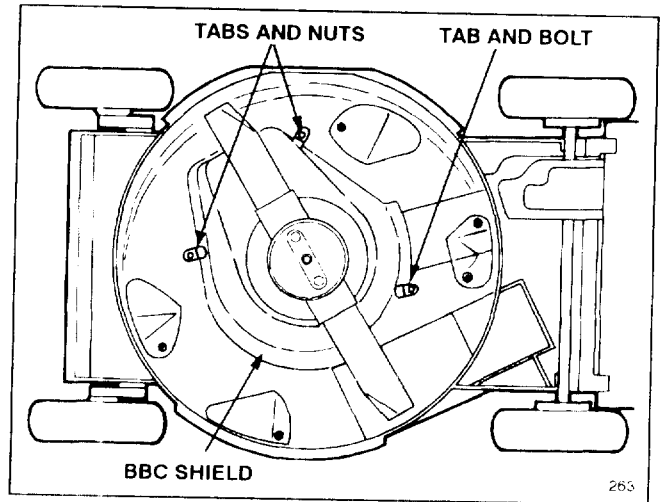

Figure 34
5. Loosen tabs securing BBC shield to deck by loosening nuts or bolts on tabs (Fig. 34). Rotate tabs 180° to move them out of the way.
8. Reinstall blade, blade stiffener, anti-scalp cup, and (2) blade nuts.